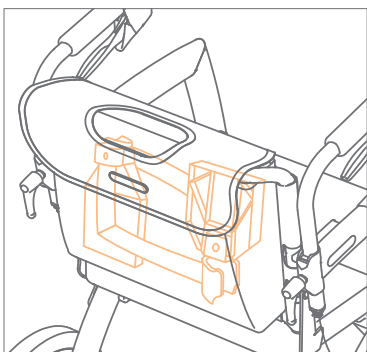

Figure 48: Storing footrests mirrored.
- a. Remove the footrests. Slide the footrests up until released from the footrest holders. Put them back into the bag of the Rollz transport chair package, mirrored to each other **(Figure 48)**.